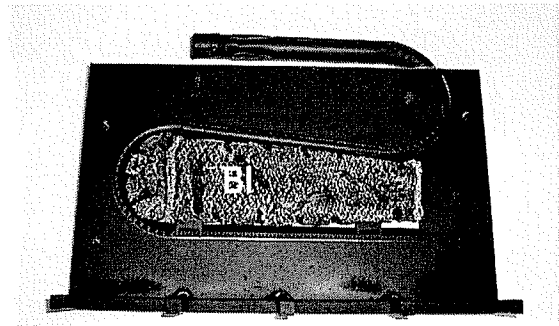

FIGURE J-1
J) LOG INSTALLATION. See Figures J-1 - J-3.